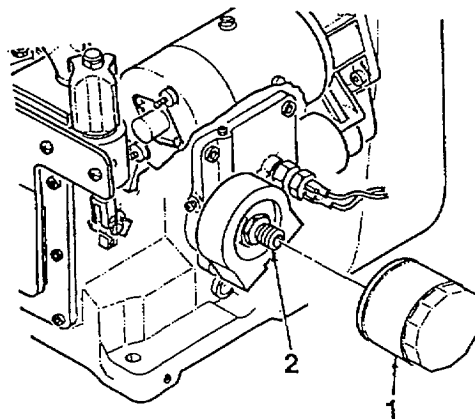

Figure 4-40. Oil Filter
2. Using oil filter wrench, remove oil filter (1, Figure 4-40) from oil filter fitting (2). Discard oil filter.
1. Apply a light coat of engine oil to oil filter gasket to ease filter installation. Install new oil filter (1, Figure 4-40) and hand tighten.